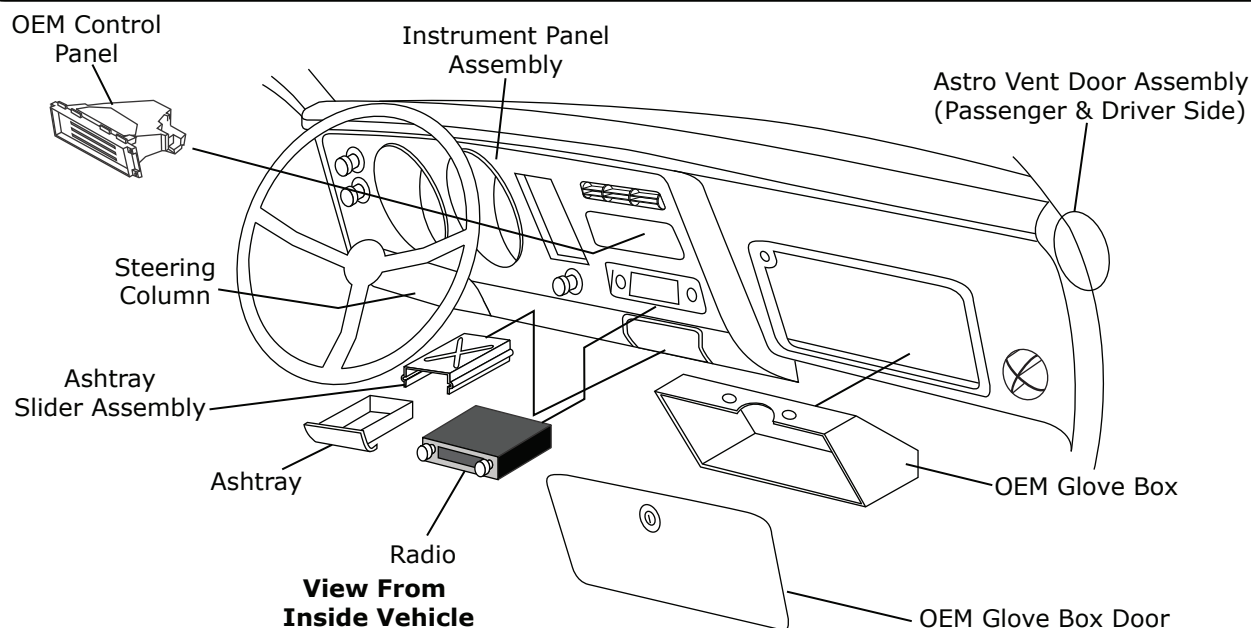

Figure 2
1. Remove the ashtray (retain) (See Figure 2, below).
2. Remove ashtray slider assembly (retain) (See Figure 2, below).
3. Remove glove box door (retain) (See Figure 2, below).
5. Remove astro ventilation ducts (See Figure 2, below).
6. Remove the radio (retain) (See Figure 2, below).
7. Remove OEM control panel (See Figure 2, below).
8. Loosen and lower steering column (See Figure 2, below).
9. Remove the instrument panel assembly (retain) (See Figure 2, below).